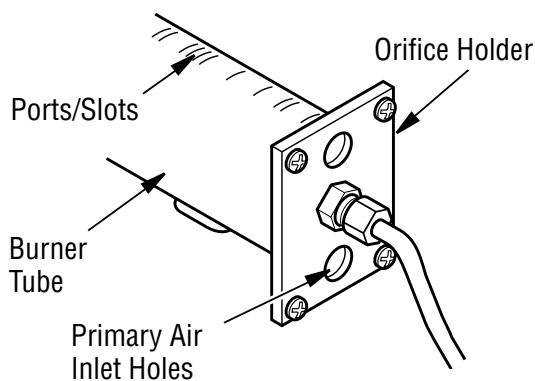

Figure 50 - Orifice Holder On Outlet Burner Tube
2. Inspect burner, pilot and primary air inlet holes on orifice holder for dust and dirt (*see Figure 50*).